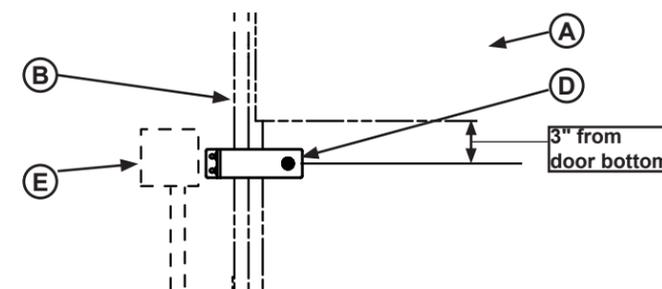

Figure 2
4. Position the bracket so that it is plumb and level. Ensure that the bracket will clear the door track and also position the sensor below the bottom of the door (A) when it is fully open only. See Figure 2.